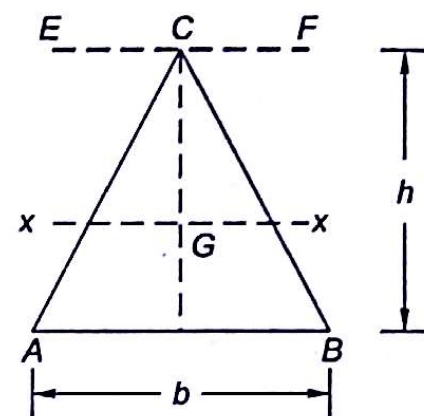

Fig. 8.22
8.8 A triangle ABC, with base b and attitude h is shown in the Fig. 8.22. What is the ratio of I_{EF}/I_{AB} ?